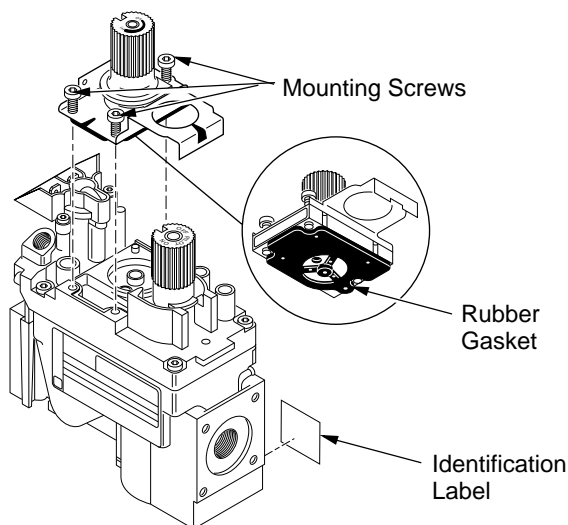

Figure 5 - Installing Pressure Regulator Assembly
2. Insure that the rubber gasket is properly positioned on the new pressure regulator assembly. Install the NG pressure regulator assembly to the valve using the new mounting screws supplied with the kit. Tighten screws securely (approximately 25 in-lbs.) (see Figure 5).
3. Install the identification label enclosed with the gas valve regulator to the valve body where it can easily be seen (see Figure 5).